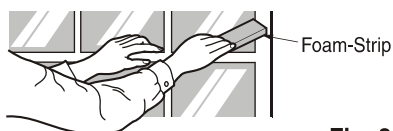

Fig. 8
8. Cut the Foam-strip to the proper length and insert between the upper window sash and the lower window sash. (See Fig. 8)